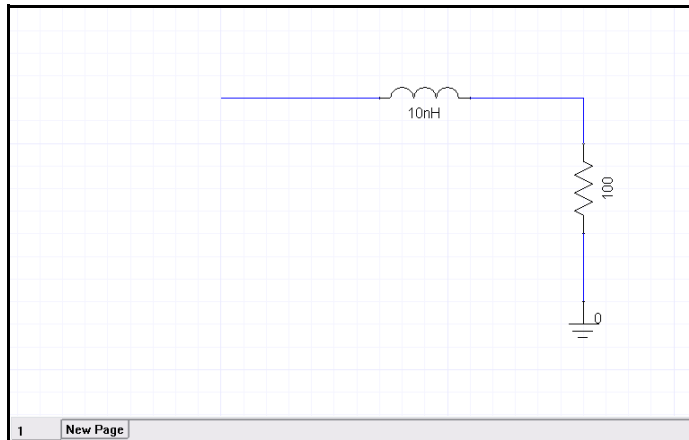

Figure 4. Wired components.
10. Now wire your inductor and resistor to look like Fig. 4. To create the long wire with no connection on the left of the inductor, start at the inductor and drag the wire to the desired length. Double click on the end to place the long wire.